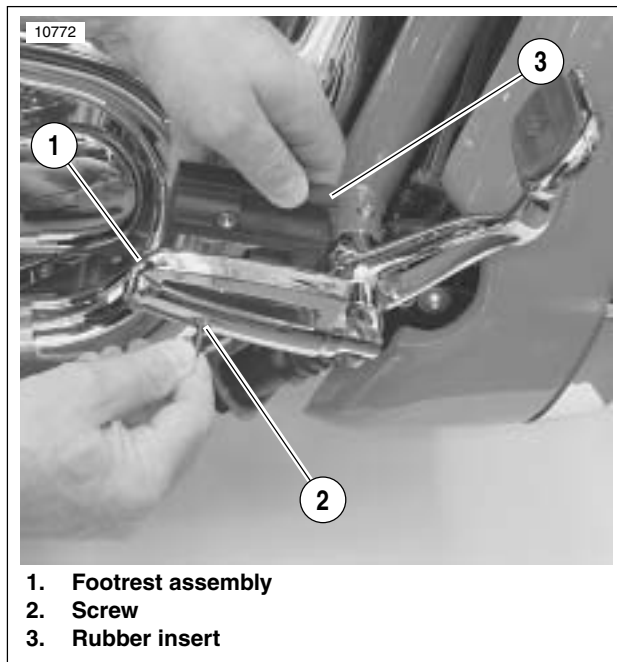

Figure 7-8. Removing Footrest Rubber Insert
1. See Figure 7-8. Remove screw (2) and footrest rubber insert (3) from footrest assembly (1).
3. See Figure 7-8. Reinstall rubber insert (3) into footrest assembly (1) and secure with screw (2). Tighten to 4.0-6.0 Nm (35-53 in-lbs).